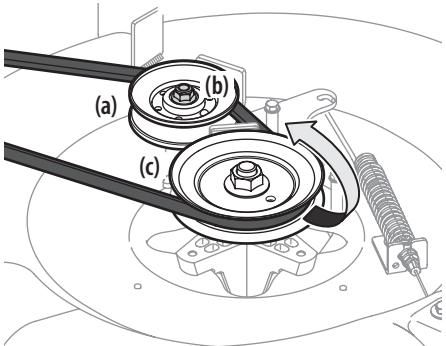

Figure 35
7. Loosen the idler pulley (24" decks only) (a) by loosening the flange lock nut (b) that secures it, enough to allow clearance for the belt to move past it and off. Remove the belt by working it off of the deck drive pulley (c) and idler pulley (a). See Figure 35.